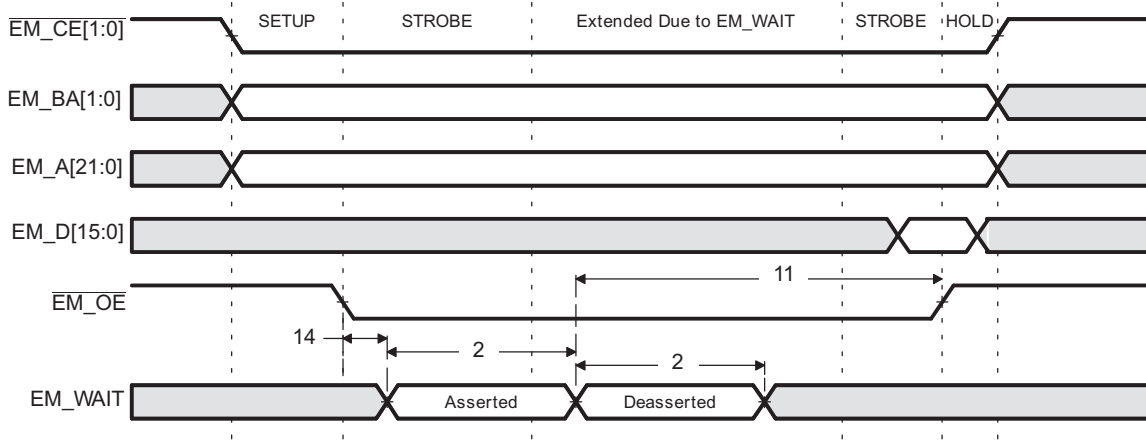
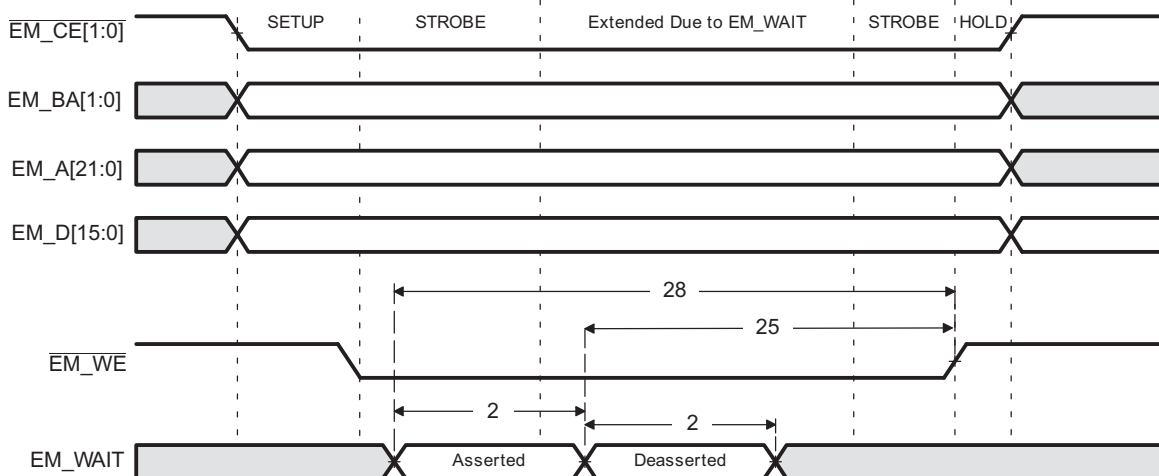

Figure 7-15. EM_WAIT Read Timing Requirements
Figure 7-16. EM_WAIT Write Timing Requirements
- (1) $E=2 \times \text{PLL1C SYSCLK4 period in ns}$. See Section 4.3 for more information.
(2) Setup before end of STROBE phase (if no extended wait states are inserted) by which EM_WAIT must be asserted to add extended wait states. Figure 7-15 and Figure 7-16 describe EMIF transactions that include extended wait states inserted during the STROBE phase. However, cycles inserted as part of this extended wait period should not be counted; the 4E requirement is to the start of where the HOLD phase would begin if there were no extended wait cycles.